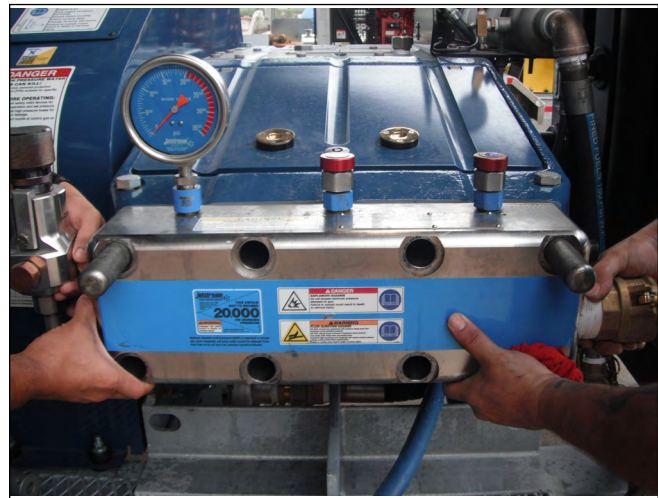

Figure 19: Removing the Manifold.
9. Once all of the bolts are removed, lift the manifold off the pump (Figure 19).